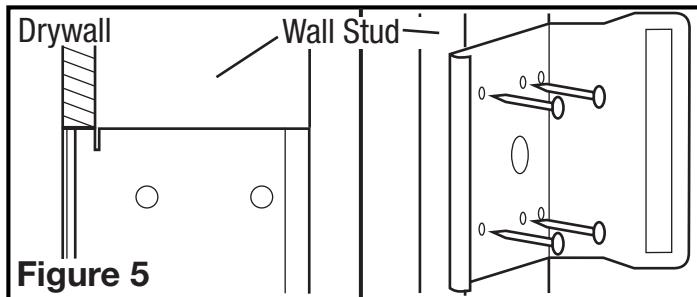

Figure 5
1. Using the gauge on the bracket, line up the bracket on the side of a wall stud such that the bottom of the fan will be flush with the finished wall. The bracket should sit one drywall thickness forward on the stud (**Figure 5**).